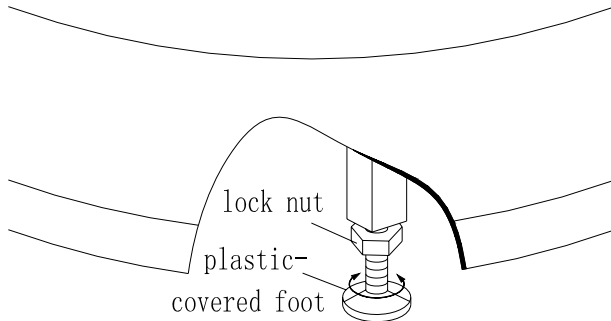

Fig. 1
1. Adjust plastic-covered feet -----move the basin to a suitable position, adjust the plastic-covered foot at the bottom, to make it contact the ground. As fig.1